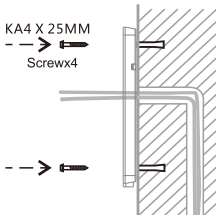

Figure 6
- B. With 4 KA5 x 25mm screws, tighten the Wall-mounted hanging shell as shown in Figure 6.